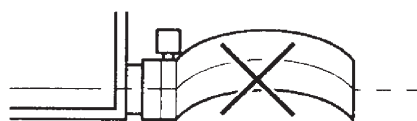

Fig.4
- No folding of drain hose inside the indoor unit.(Refer to Fig.4)